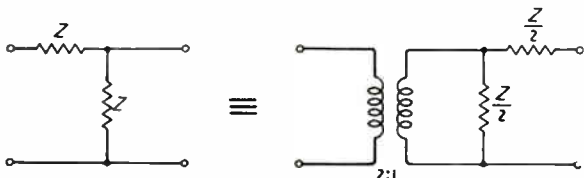
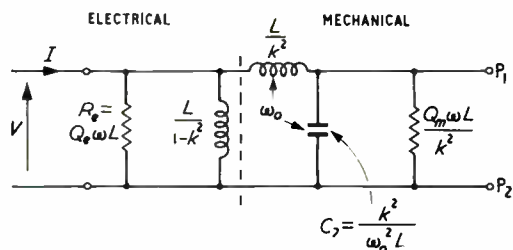
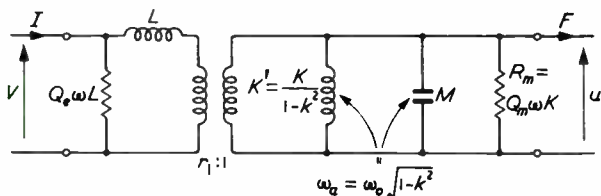
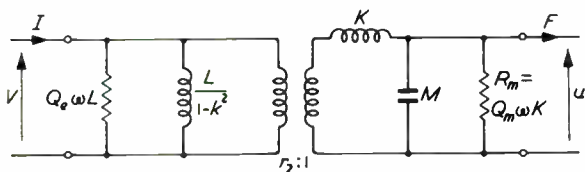

Fig. 5. A useful equivalence
Fig. 6. Alternative circuit represented by equation (4)
Fig. 7. First complete equivalent circuit of single-ended vibrator
Fig. 8. Second complete equivalent circuit of single-ended vibrator
Expanding (5) in a different order, or reversing the L-network of inductors in Fig. 3 and inserting the accompanying impedance transformation (Fig. 5) gives Fig. 6 which is exactly equivalent to Fig. 3.
To show the values of the mechanical quantities explicitly and provide a mechanical port, an electro-mechanical transformer can be introduced giving Figs. 7 and 8, on which  $F$  and  $u$  are the force and velocity imparted to the mechanical load.
The turns ratio  $r_1$  of the transformer in Fig. 7 is given by
each end) and the total end-to-end compliance is  $K$ , the resonant frequency is given by  $\omega_0^2 = 4/MK$ ; the double-ended vibrator is equivalent to two single-ended vibrators each with half the total mass and compliance. The equivalent circuit for a double-ended vibrator can be constructed by drawing Fig. 7 twice and combining the elements. The same result is, of course, obtained by a direct analysis on the lines given earlier.
When interest is focused on one mechanical port, it is convenient to transform Fig. 13 into Fig. 14 by means of the equivalence of Fig. 5. When the mechanical impedance of the load is fairly low, e.g. when the loaded  $Q_m$  of the transducer is greater than 10 and the load is resistive, the series capacitance  $M$  has a negligible effect and may be omitted, giving Fig. 15. Thus Fig. 7 may be taken as the equivalent circuit with the following changes: the transformer ratio is  $2r_1$  (not  $r_1$ ); the compliance is  $K/4$  (not  $K$ ). Figs. 8, 10 and 11 also apply provided similar changes are made. A gyrator can be introduced if desired: it should be emphasised that no other way of changing to the first electro-mechanical analogy gives an 'exact' equivalent circuit.